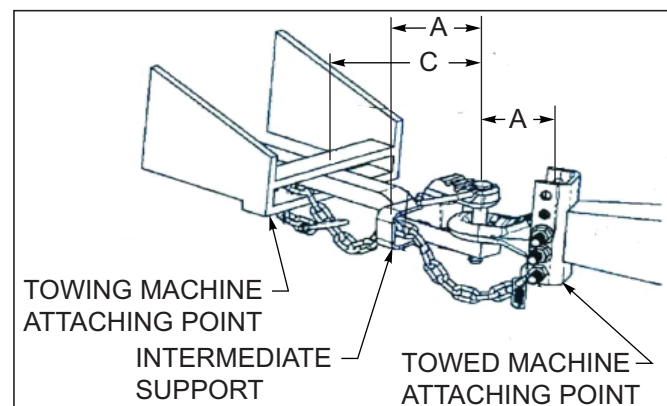

Figure 4-7: Auxiliary Attaching System with Intermediate Support
8. Attach the safety chain to the tractor drawbar **See Figure 4-7, Refer to the tractor operating manual for additional information.** Provide only enough slack in the chain for turning. Do not use an intermediate chain support as the attaching point for the chain on the tractor. Do not pull the implement by the safety chain.